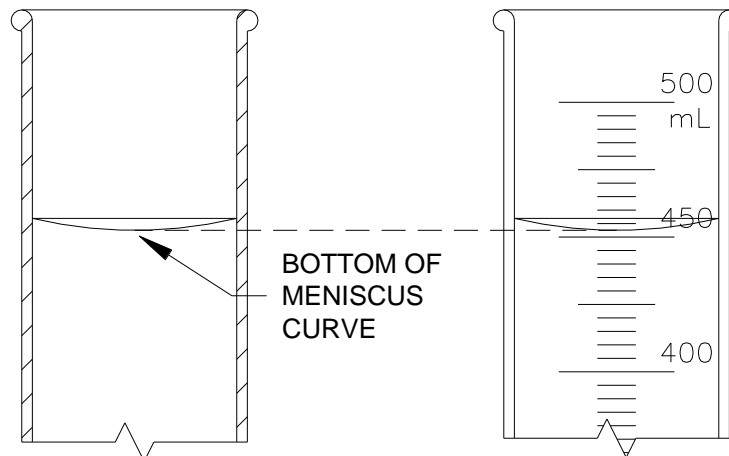

Figure 1 - Meniscus Curve
- Using proper meniscus reading technique (see **Figure 1**), read and record the remaining fluid volume as "**Ending Patient**" on the UF Problem Identification Checklist.